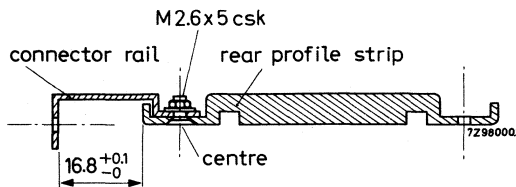

Fig. 9
- Attach a connector rail to each rear profile strip by means of a countersunk screw M2.6x5, washer and nut in the countersunk centre hole (see Fig. 9; only two profile strips possess a countersunk centre hole; these are the rear profile strips).